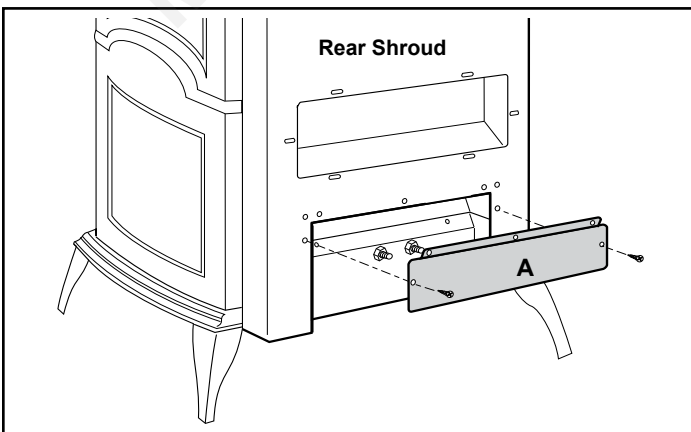

Figure 55 - Remove the cover plate and hex nuts from the rear shroud.
1. Remove the cover plate (A) at the bottom of the rear shroud. (Figure 55)
2. Remove the hex nuts (B) from the two mounting studs located at the lower center of the rear shroud. (Figure 55)